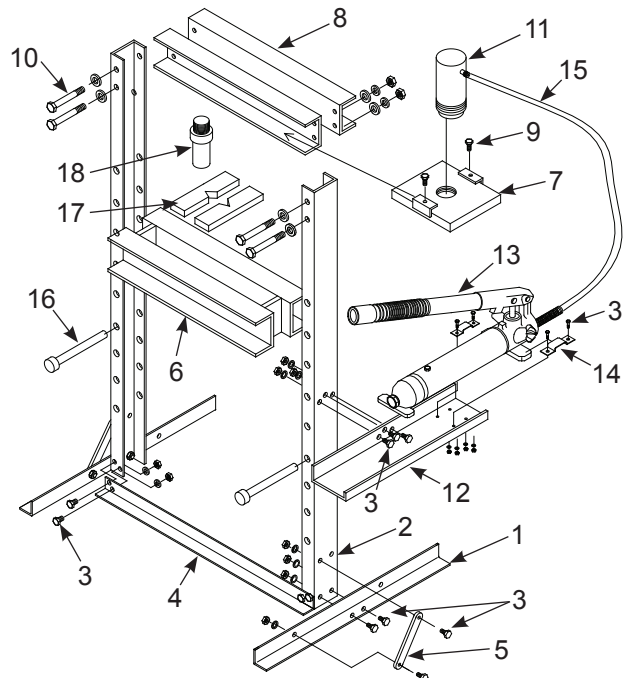

Figure 5 - Assembly Illustration for model Atd-7455
**Models Atd-7455:** (Refer to Figure 5)
1. Attach base legs (1) to upright channels (2) with bolts, lock washers and nuts (3). Hand tighten only.
2. Attach lower cross member (4) to upright channels (2) with bolts, lock washers and nuts (3).
3. Attach support links (5) to the base (1) and upright channels (2) with bolts, lock washers and nuts (3).
4. Carefully slide bed frame (6) down to lowest possible position between the upright channels (2).
5. Slide head plate (7) to into upper cross members (8). Then, secure with bolts (9).
6. Attach the upper cross members assembly (8) to the upright channels (2) with bolts, flat washers, lock washers and nuts (10).
7. Thread the ram (11) to head plate (7) on upper cross members (8).
8. Attached pump support bracket (12) to upright channel (2) with three bolts, lock washers and nuts (3).